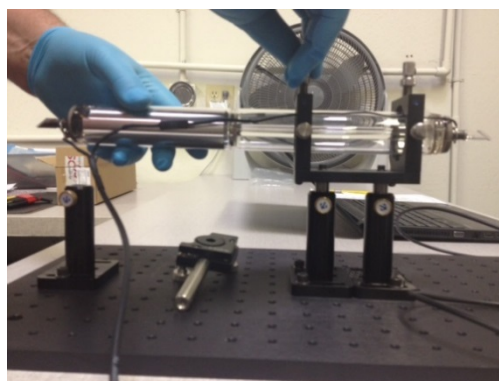

Figure 15
Step 11: Next, to place HeNe Laser tube (p/n P801-00-001) in laser mount, you must first remove post/mirror mount assembly from post holder to allow access to laser mount. Continue on by sliding the tube through the laser mount (loosening thumb screws for adequate clearance) making sure the tube is centered in laser mount assembly. *Shown in figure 15.*